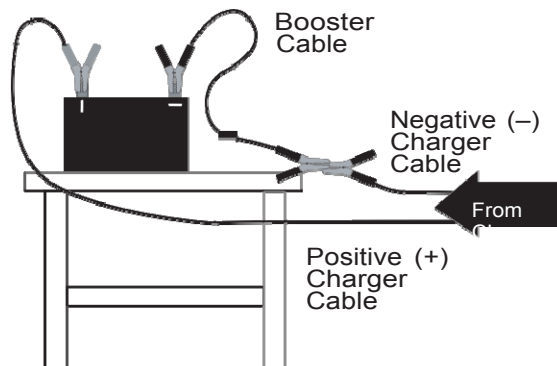

Figure B.5. Connecting Outside The Vehicle
2. Check the polarity of the battery terminals (see Figure B.5). The POSITIVE terminal should be marked: POSITIVE, POS, +, or P. The NEGATIVE terminal should be marked: NEGATIVE, NEG, -, or N.